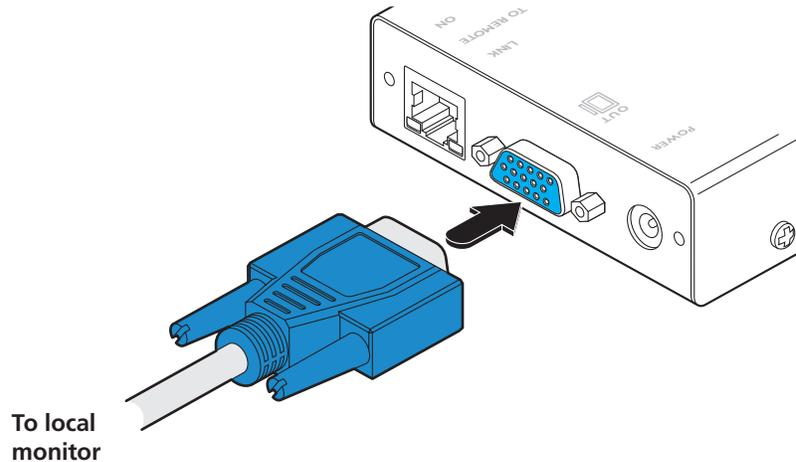

Figure 3-5. Optionally attaching a local video monitor
- 4 Optionally connect a local video monitor to the video out feed- through connector on the local module as shown in Figure 3-5: